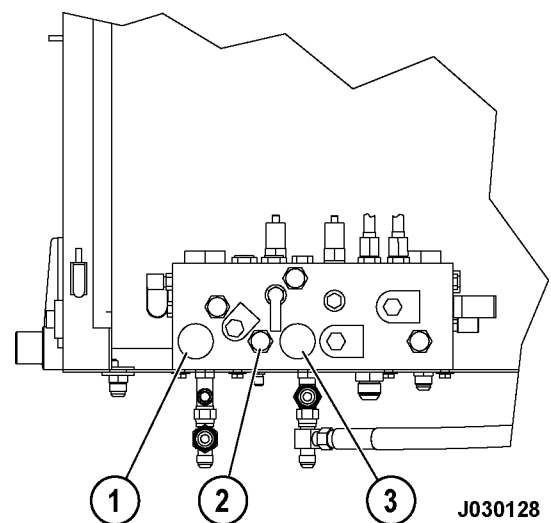

FIGURE 3-1. BRAKE MANIFOLD
The brake valve is a pressure modulating valve that is actuated mechanically through the brake pedal in the operator cab or hydraulically through automatic apply valve (2, Figure 3-1) in the hydraulic brake cabinet.
2. Place the directional control lever in PARK and turn the rest switch ON. Turn the key switch OFF to shut down the engine and allow 90 seconds for the steering system accumulators to bleed down. Open bleed down valves (1) and (3, Figure 3-1) to bleed down the brake accumulators.
4. With the engine off and the key switch OFF, open both brake accumulator bleed down valves (1) and (3, Figure 3-1). Precharge both brake accumulators to 9 650 kPa (1400 psi). Refer to Accumulator Charging Procedure later in this section.